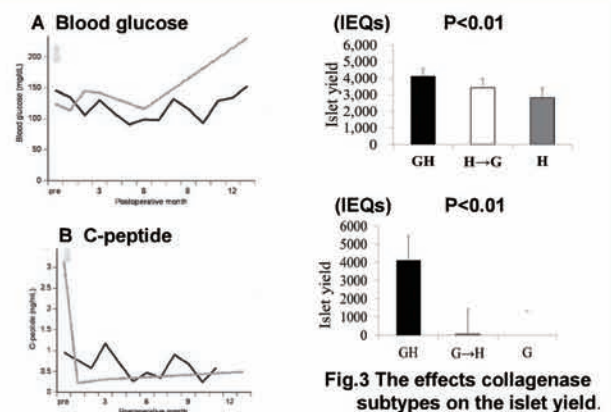

Fig. 2. A blood glucose, B, serum C-peptide after TP with IAT in patients.
(1) Clinical Experiences in the treatment of AVM by TP with IAT
The numbers of isolated islets and total tissue volume were 355,270 islet equivalents (IEQ) and 5.7 mL (patient 1), 244,758 IEQ and 16.0 mL (patient 2), and 310,238 IEQ and 1.0 mL (patient 3). Many larger clusters derived from a cystic lesion were detected in patient 2. Thus, we had to stop patient 2's transplantation when half of the islets were transplanted. Fig.2 shows the postoperative courses of the patients. The blood glucose levels were well controlled using low-dose insulin injection in patients 1 and 3. The blood glucose of the recipients was well maintained without hypoglycemia, and a substantial level of fasting C-peptide was observed under a low dose of daily insulin supplementation (1).